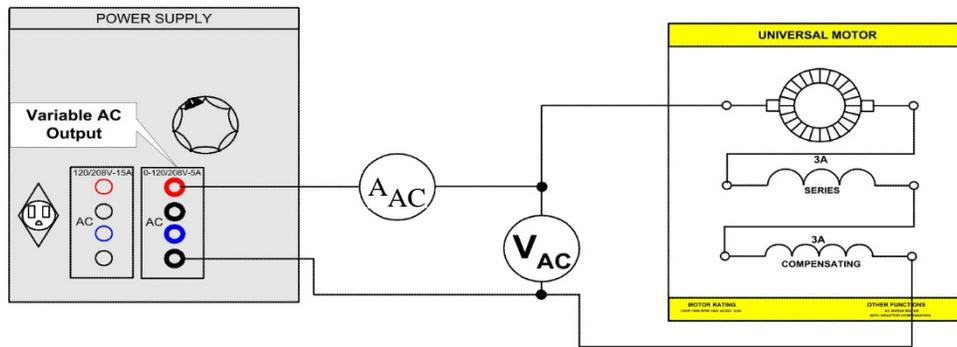

FIGURE 8.21
Step 19: Reconnect your circuit for AC operation as shown in Figure 8.21.